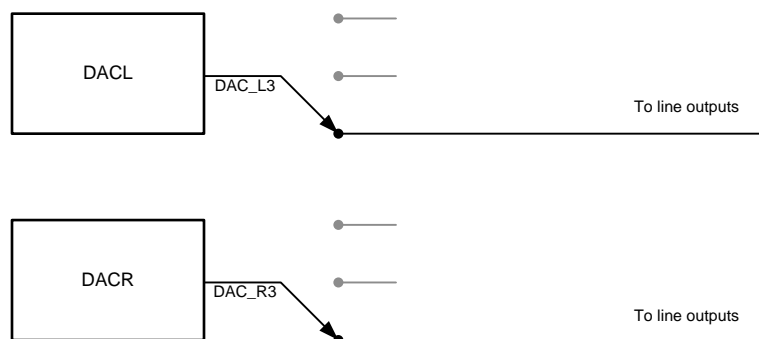

Figure 7. Line Output Path
- Figure 7 shows the line output path. Similar to the headphone path, this is a low-power path. The line output path routes the DAC output to the line output.